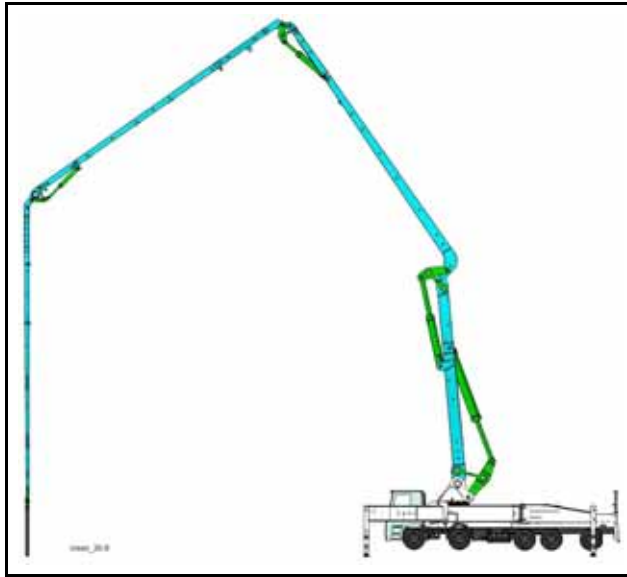

Fig. 240 Cleaning position for placing boom (schematic diagram)
- Position the placing boom as shown in (Fig. 240).